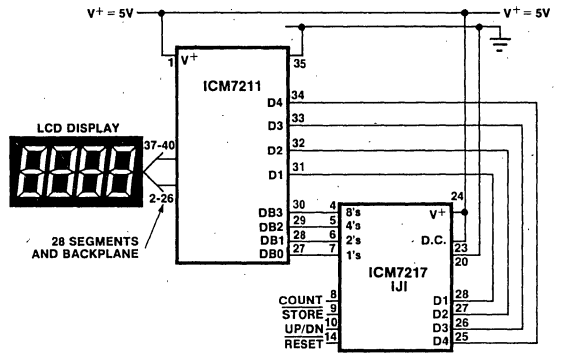

Figure 13: LCD Display Interface
8. LCD DISPLAY INTERFACE (Figure 13)